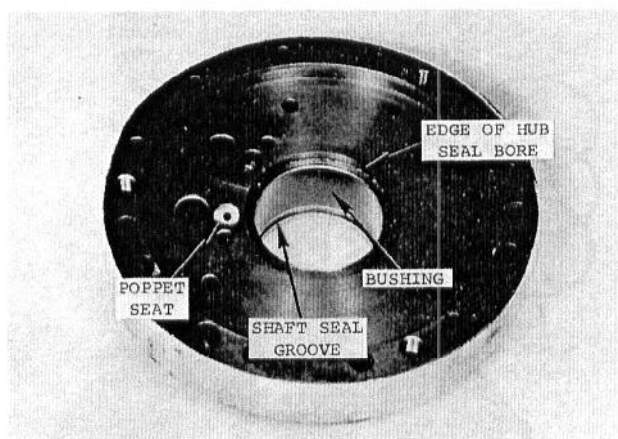

Fig. 56 — Inspecting Bushing and Poppet Seat in Top Plate
5. Inspect the top cover as follows ... see Fig. 56: